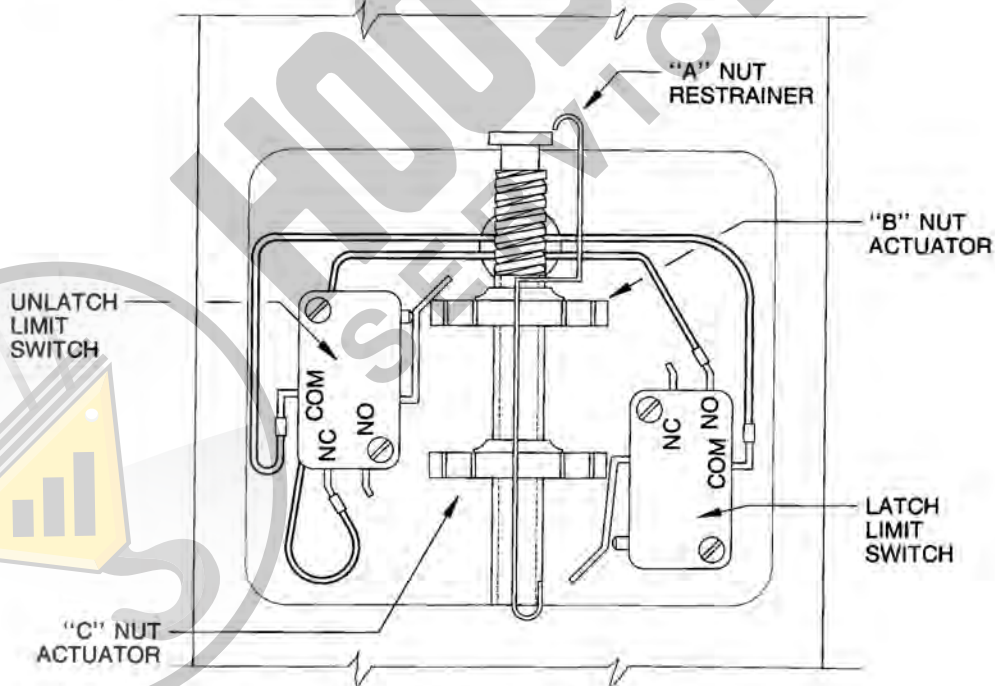

FIGURE 50
8. With the latch in the LATCHED position (linear actuator extended), and both baffle pins completely retracted, refer to Figure 50 and adjust the LATCH limit switch by removing nut restrainer A and rotating nut actuator C until it actuates the LATCH limit switch. When the limit switch actuates, it will emit an audible "click"; or an ohmmeter or continuity tester can be used to determine when the limit switch actuates. Replace nut restrainer A.
9. With the latch in the UNLATCHED position (linear actuator retracted), both baffle pins should extend downward approximately $2-7/8"$ below the rail tread. When this mechanical relationship is established, refer to Figure 50 and adjust the UNLATCH limit switch by removing nut restrainer A and rotating nut actuator B until it actuates the UNLATCH limit switch. When the limit switch actuates, it will emit an audible "click"; or an ohmmeter or continuity tester can be used to determine when the limit switch actuates. Replace nut restrainer A.